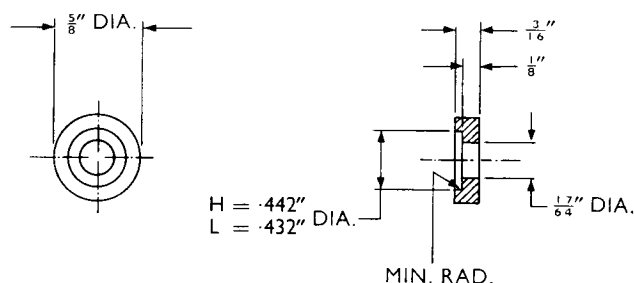

FIG. 21.
6. To lock the auto advance unit in the fully advanced position, use a washer for the central cam fixing bolt with a hole in the washer sufficiently large enough to clear the cam post projecting and to bear on the cam itself. Turn the cam to the full advance position and tighten the bolt. A special washer for workshop use is shown in Figure 21 together with its dimensions.